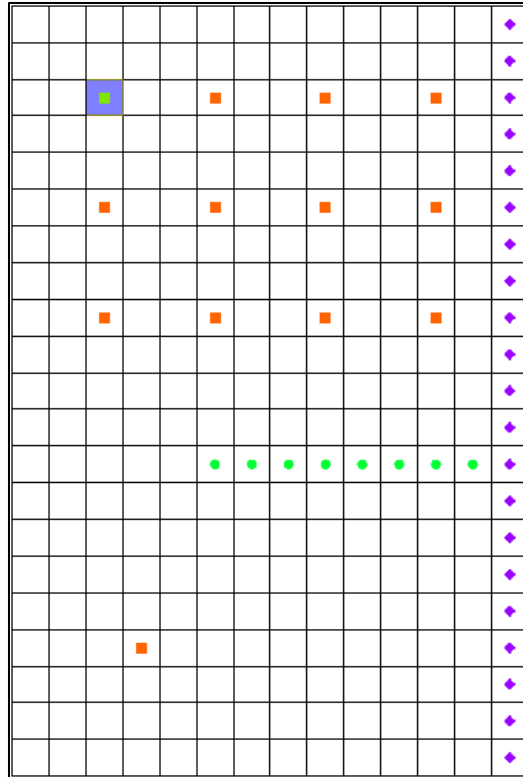

Figure 4 Selected MNW well cell (IJK: 3,3,1)
2. Using the **Select Cells**  tool, select the 3D grid cell highlighted in Figure 4.
1. If necessary, re-select the grid cell selected in Figure 4 (Cell ID: 31).